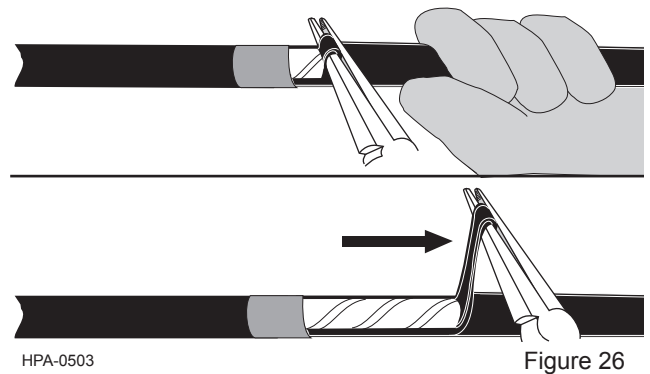

Figure 26
Step 3: Reposition the pliers on the split sheath perpendicular to the cable's long axis. "Roll" the end of the split sheath with the pliers for a secure grip and then pull the pliers and end of the sheath 90° away from the cable core (Figure 26).